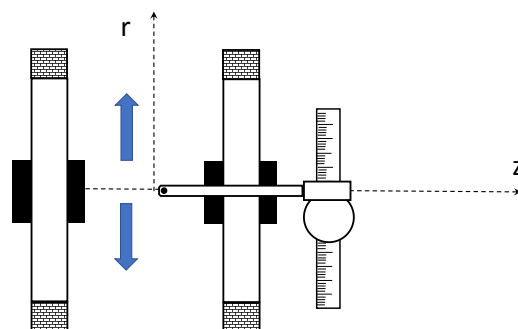

Figure 7: Measuring B_z along the r-axis the Helmholtz arrangement
- Align the tip of the teslameter in such a way that it can be moved along the r-axis of the system (see figure 7). In this configuration the probe measures the B_z component.